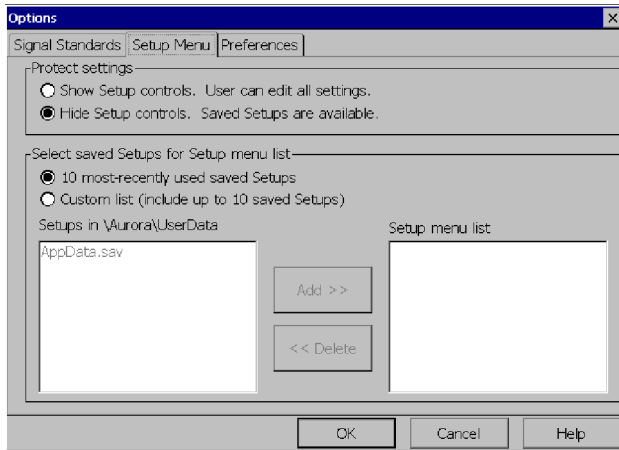

Figure 3-71: Protecting Setup Controls
2. Tap the **Setup Menu** tab. See Figure 3-71.
2. Select the **Setup Menu** tab. See Figure 3-71.